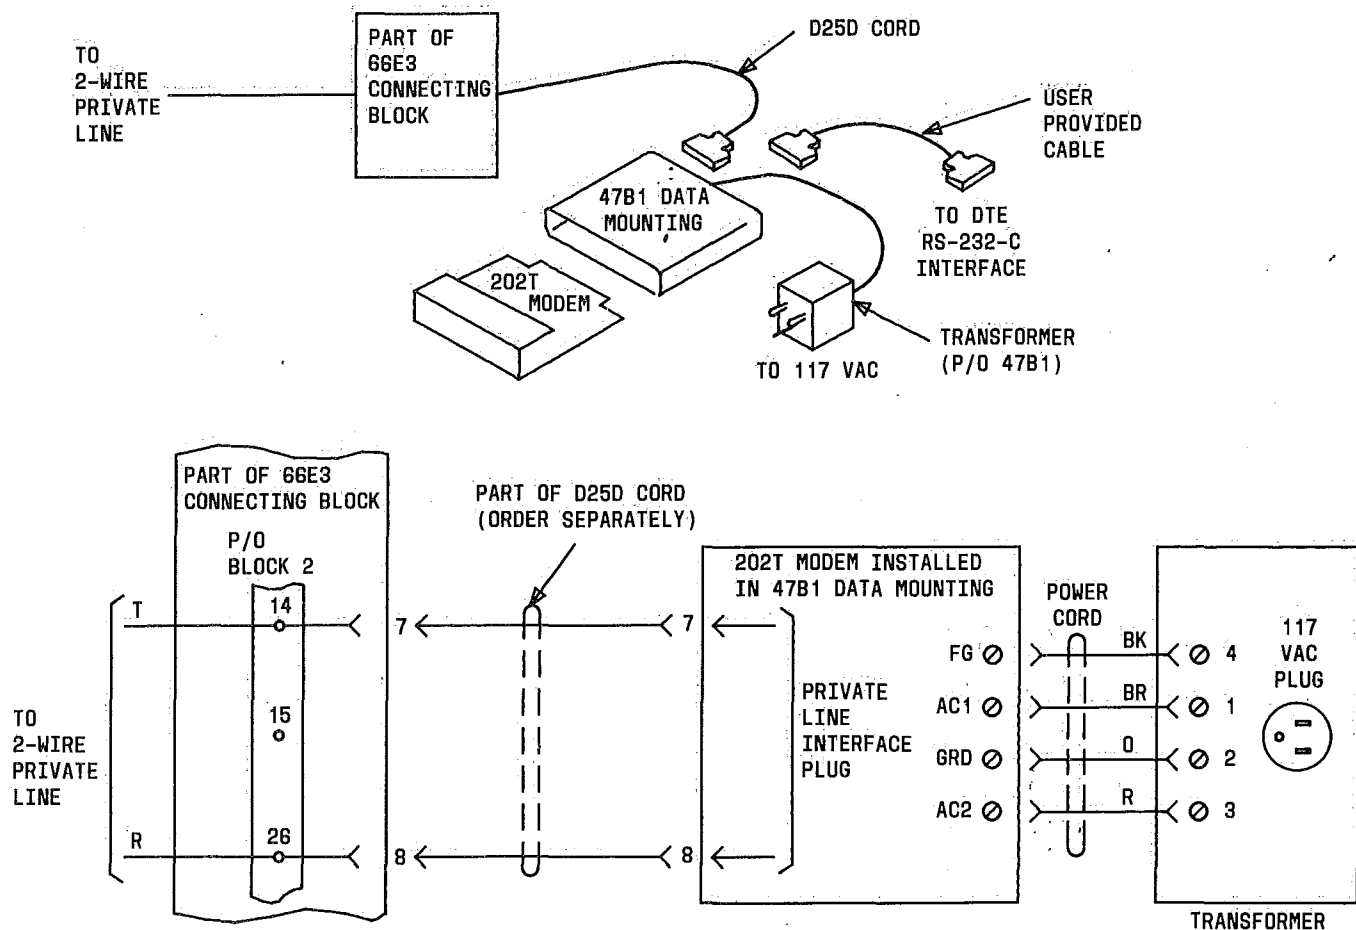

Figure 9. 2-Wire Modem Connected to Locally Engineered Private Line Termination
1. Verify that all parts required are available as shown in Figure 9.